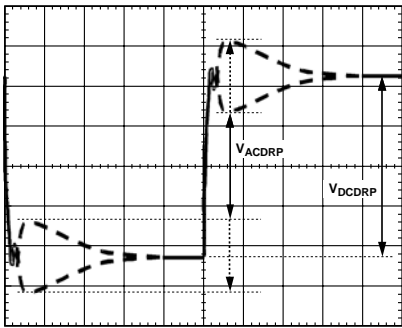

Figure 15. AC Loadline Waveform
15. This waveform should look something like Figure 15. Use the horizontal cursors to measure V_{ACDRP} and V_{DCDRP} as shown. *Do not measure the undershoot or overshoot that happens immediately after the step.*